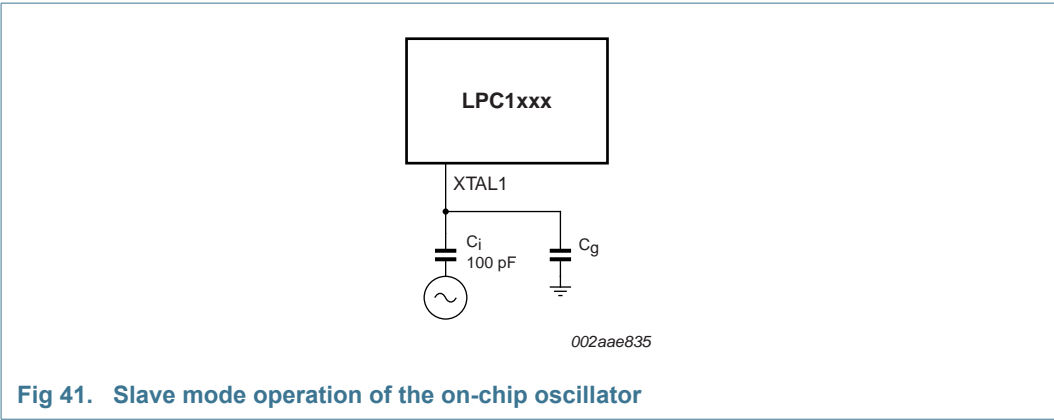

Fig 41. Slave mode operation of the on-chip oscillator
- In slave mode, couple the input clock signal with a capacitor of 100 pF (C_C in Figure 41), with an amplitude of at least 200 mV (RMS). The XTAL2 pin in this configuration can be left unconnected.